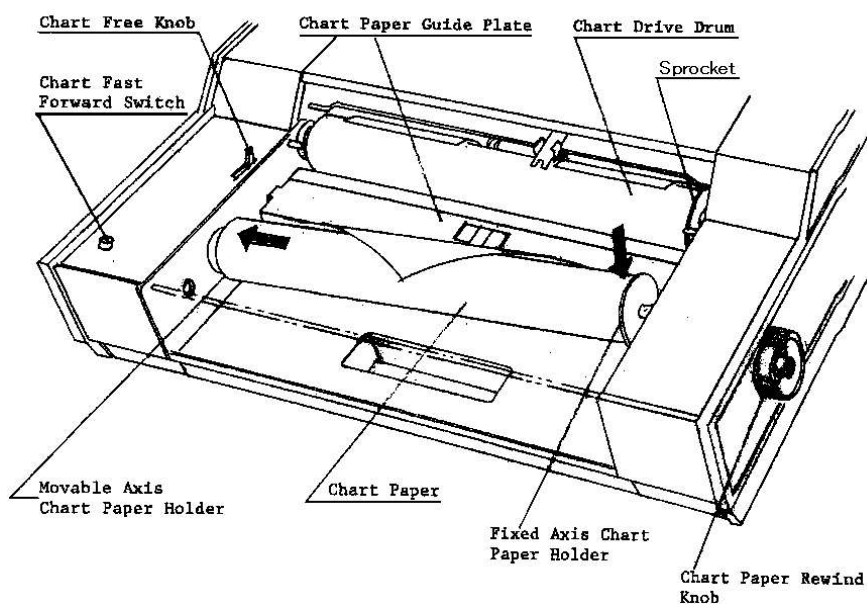

Fig. 4.8 Loading the Chart Paper
4.3 Loading the Chart Paper (refer to Fig. 4.8):